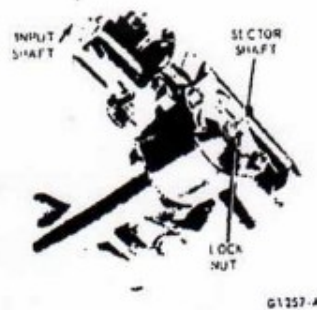

FIG. 37—Adjusting Mesh Load
17. Attach an in-lb torque wrench to the input shaft. Adjust the mesh load to specifications as shown in Fig. 37.